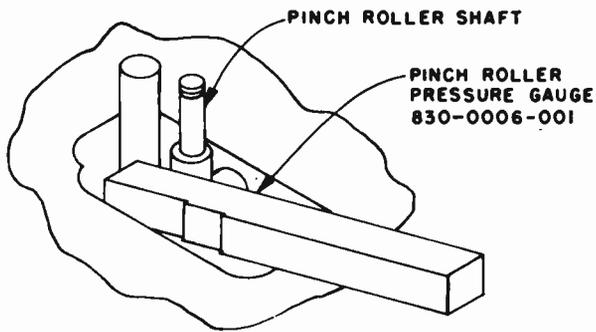

FIGURE 5-11
5. Remove the rubber pressure roller and adjust the pressure roller shaft so that the Pressure Roller Compression Gauge fits snugly between the left side of the slot in the deck and the pressure roller shaft as shown in Figure 5-11.